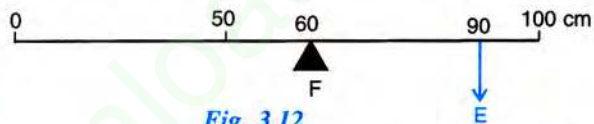

Fig. 3.12
- Fig. 3.12, shows a uniform metre rule of weight *W* supported on a fulcrum at the 60 cm mark by applying the effort *E* at the 90 cm mark.